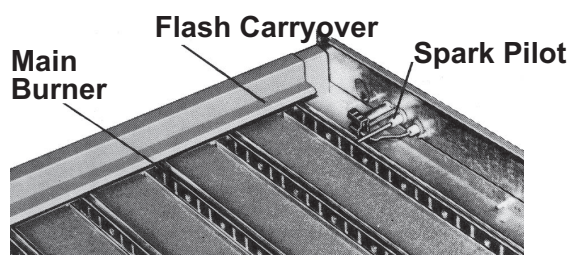

Figure 18. Typical Burner Rack with Spark Pilot
- **Pilot:** The horizontal pilot is located in the control end of the burner rack (see Figure 18) and is accessible after the control compartment panel has been removed. All pilots are target type with lint-free feature. Pilot gas pressure should be the same as supply line pressure (refer to Gas Supply Pressure section). If required, adjust the pilot flame length to approximately 1-1/4 inch using pilot adjustment screw in control valve body.